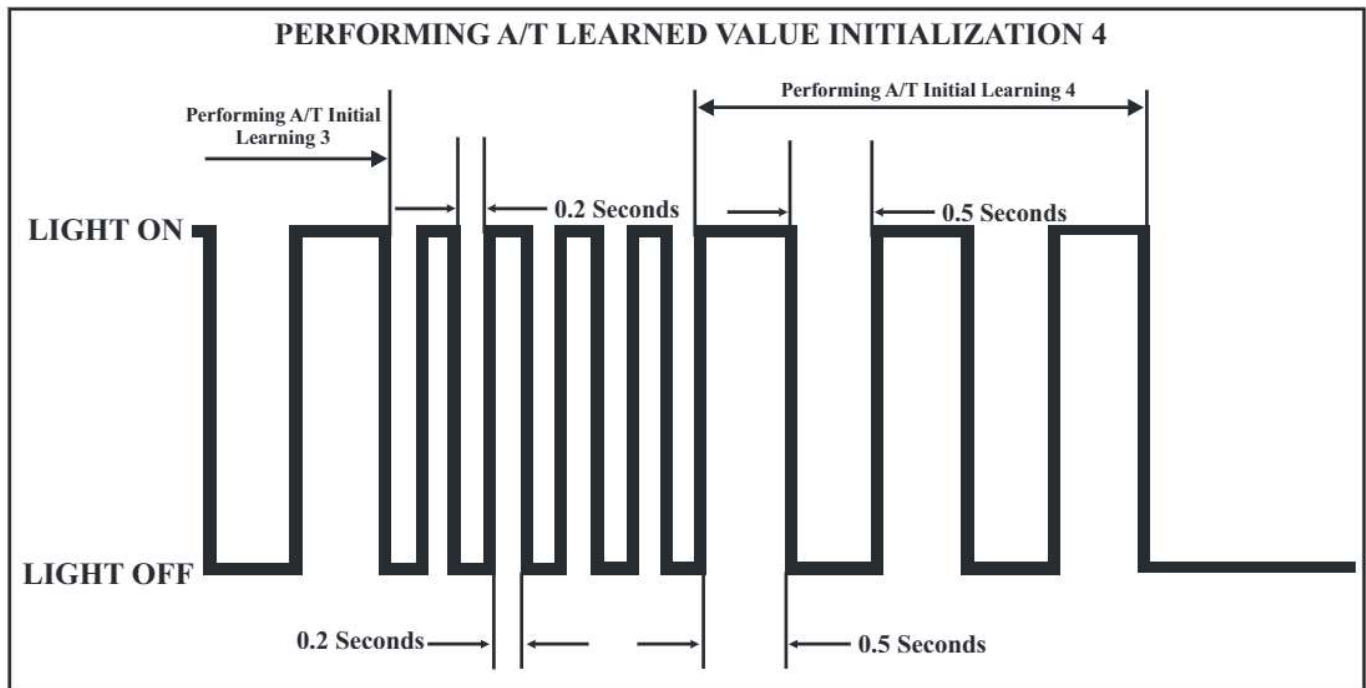

Figure 91
- 2 - Check to see that the flashing interval of the A/T oil temperature warning lamp changes to 0.5 a second pattern as seen in Figure 91.